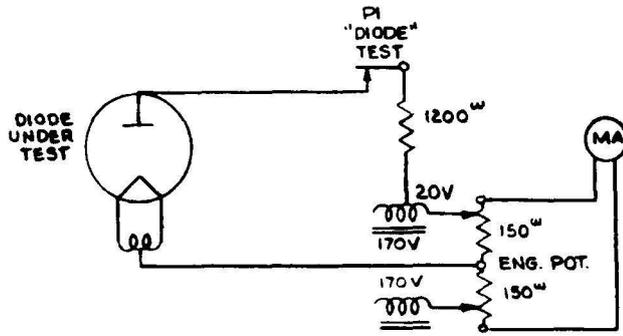

Fig. 4 - Diode Test Circuit
2.21 When testing the diode section of a multi-purpose tube, or small hot cathode diodes, the circuit (Fig. 4) is the same as described in Paragraph 2.20 except that the a-c potential is decreased from 35 to about 15 volts, and the current limiting resistance is changed to 1200 ohms. Only one plate of the